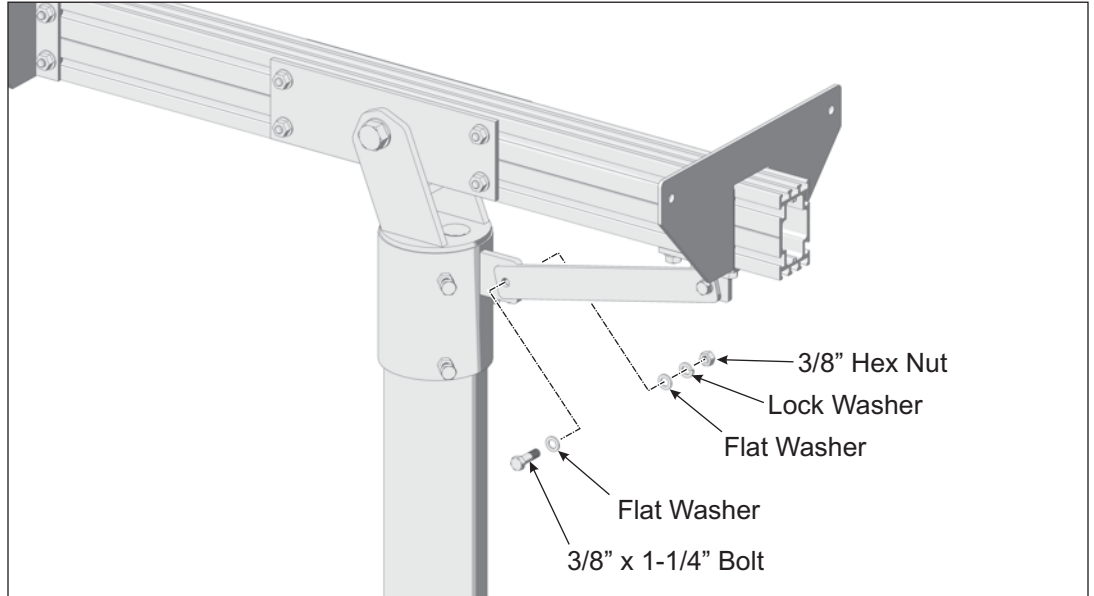

*Figure 2-2: Loosening the Support Bar Mounting Tab*
- E. First loosen the four 3/8” Flange Nuts securing the Support Bar Mounting Tab to the Strongback. (See Figure 2-2)